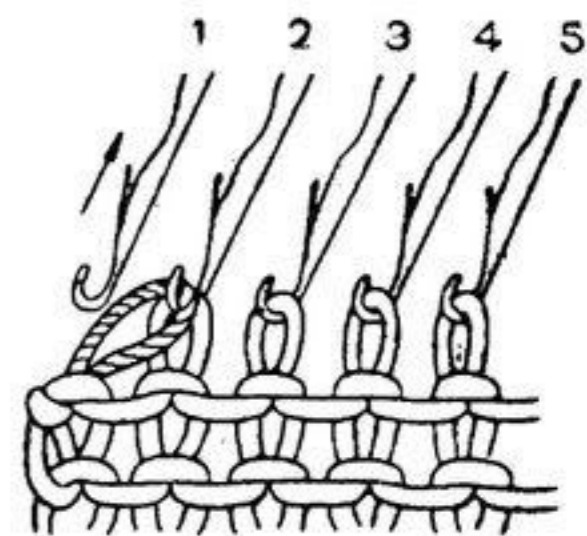

Fig. 40
- (a) With the single eye Transfer Tool transfer the stitch from the end needle onto the second needle. (Fig. 40)